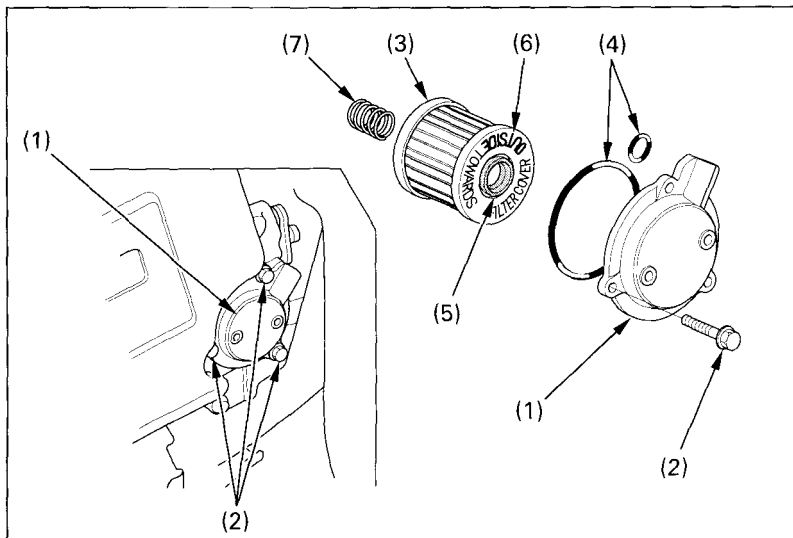

Fig. 4-13 (1) Oil filter cover
3. Remove the oil filter cover (1) (Fig. 4-13) by removing the bolts (2). Let the remaining oil drain out. Discard the oil filter (3).
4. Check that the oil filter cover O-rings (4) are in good condition and then install a new oil filter. Use only the Honda genuine oil filter or a filter of equivalent quality specified for your model. Using the wrong Honda filter or a non-Honda filter which is not of equivalent quality may cause engine damage.
5. Install the filter with the rubber seal (5) facing out, away from the engine. You will see the "OUTSIDE (TOWARDS FILTER COVER)" mark (6) on the filter body, near the seal.